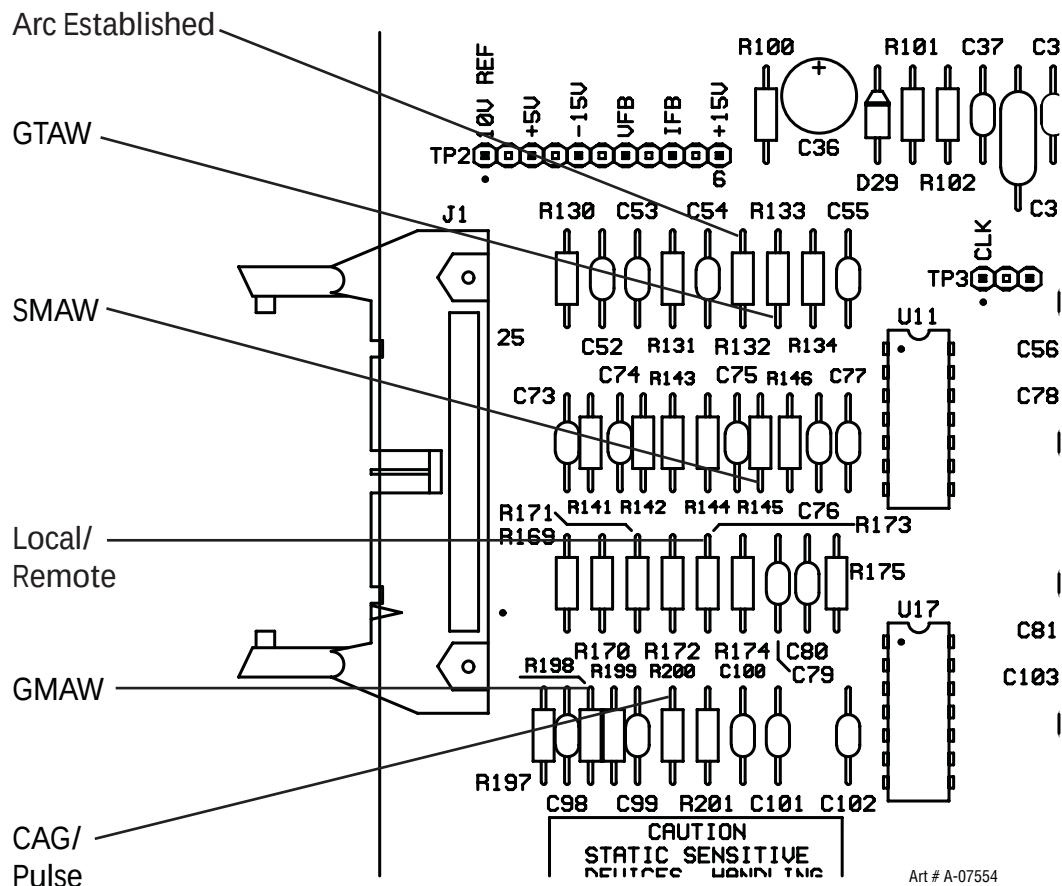

Figure 6-10
- C. With R175 at 13.6 VDC, D10-Cathode should also be high (+15VDC), with R175 at 0, D10-Cathode should also be low. (See Figure 6-10)
- GTAW mode, check at R133 (See Figure 6-10).
- SMAW mode, check at R145 (See Figure 6-10).
- GMAW mode, check at R198 (See Figure 6-10).
- CAG/PULSE mode, check at R200 (See Figure 6-10)
- Check REMOTE/LOCAL mode at R173 (See Figure 6-10). LOCAL = 14 Volts, REMOTE = 1 Volt.